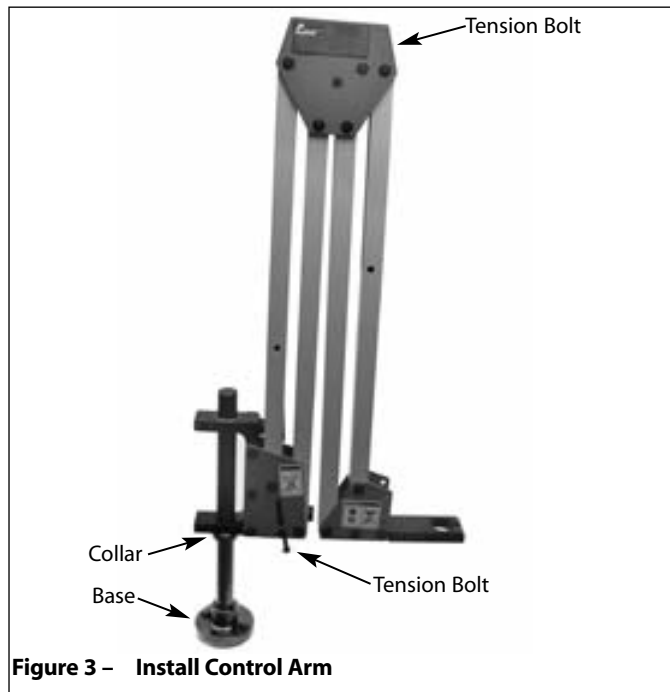

Figure 3 – Install Control Arm
Refer to Figure 3.
- If the control arm moves stiffly or falls, the gas damper springs need adjustment or replacement. The tension bolts (see Figure 3) will increase tension when turned clockwise, and decrease when turned counter clockwise.